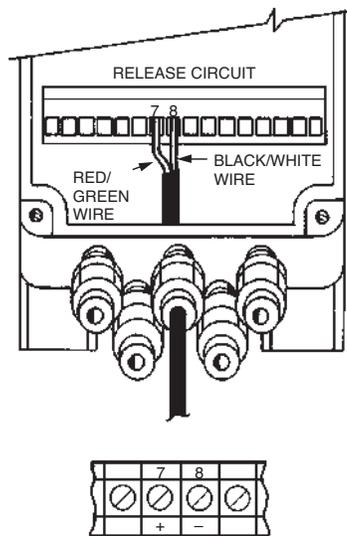

FIGURE 33
1. Locate the release circuit connector end of the assembly at the gas motor actuator. Route the cable from that location, through the strain relief, to the terminal strip at the control module. See Figure 33.
3. Strip the internal wires approximately 1/4 in. (6 mm) and securely fasten the black/white leads to Terminal 7 and the red/green leads to Terminal 8 on the control module. See Figure 33.